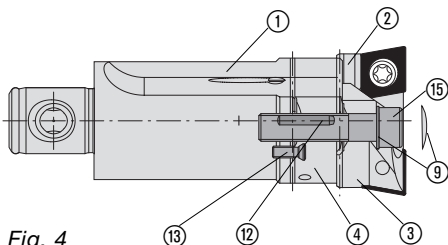

Fig. 4
## 5.2 Flexible core drilling platform with function module individually adjustable (EV) (Fig. 4/5/6)